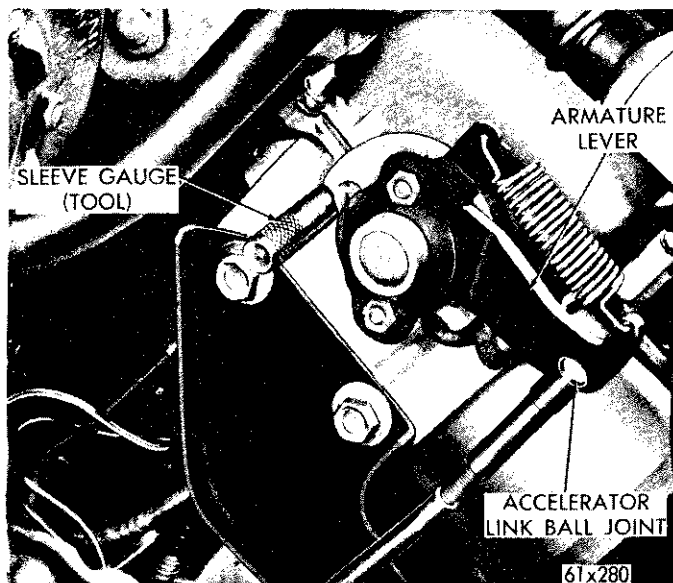

Fig. 7—Removing the Link Ball Joint from the Armature Lever
(1) Remove the nut from the link ball joint and pull the link ball joint from the armature lever (Fig. 7).
(2) Insert the sleeve gauge Tool C-3844 over the
gauge bolt and hold the armature lever securely against the sleeve gauge (Fig. 7).